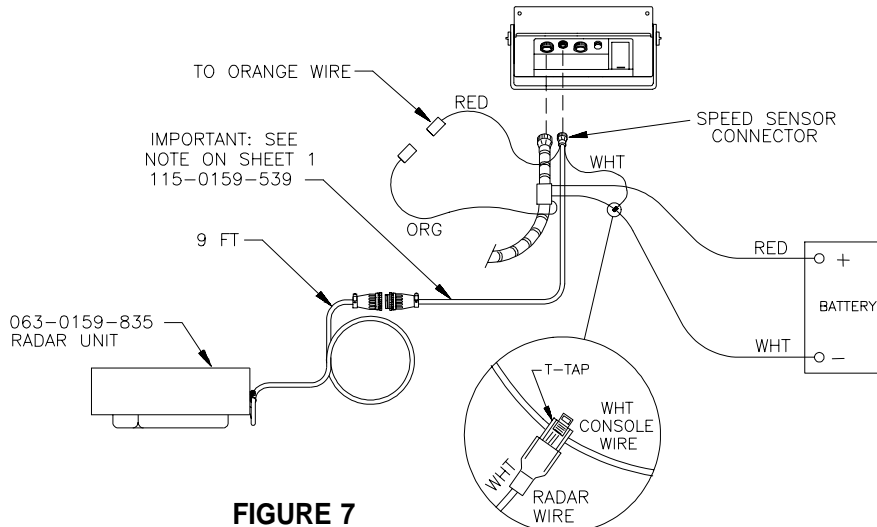

FIGURE 7
- b) For all other Consoles. Connect radar with radar interface cable (P/N 115-0159-539) to the Console. See Figure 7.